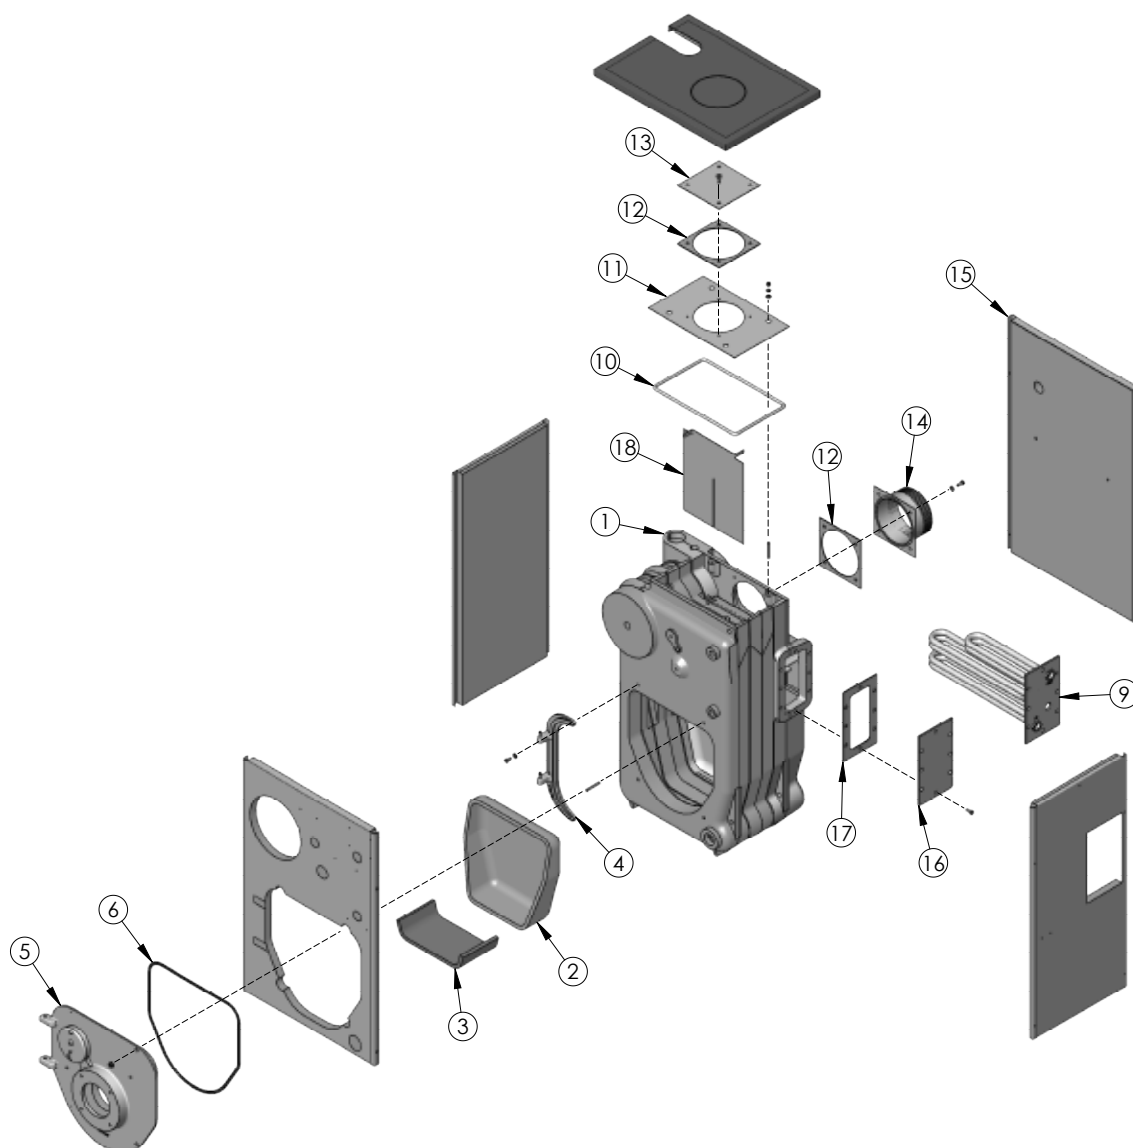

Figure 2.1: Boiler Exploded View (See Table 8.1 for parts identification)
2. Refer to Figure 2.1 for exploded view of boiler while checking and/or assembling parts of the boiler.
3. Open burner mounting plate (item 5) at this time to make certain the target wall (item 2) is seated in the back of the combustion chamber. Ceramic fiber blanket base liner (item 3: SBO-4 only) should be lying flat on bottom of combustion chamber between target wall and burner mounting plate. Close burner mounting plate.